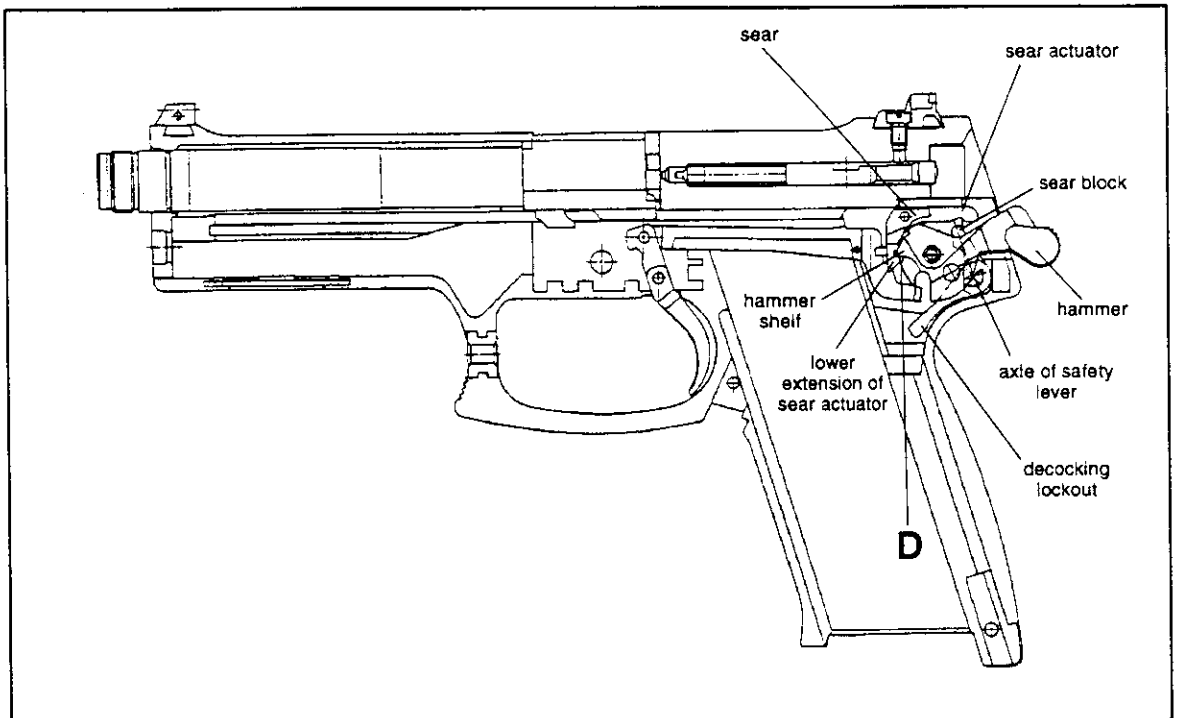

Figure 23
**2. Safety lever is disengaged (down), pistol is set on "fire" (Figure 23).**